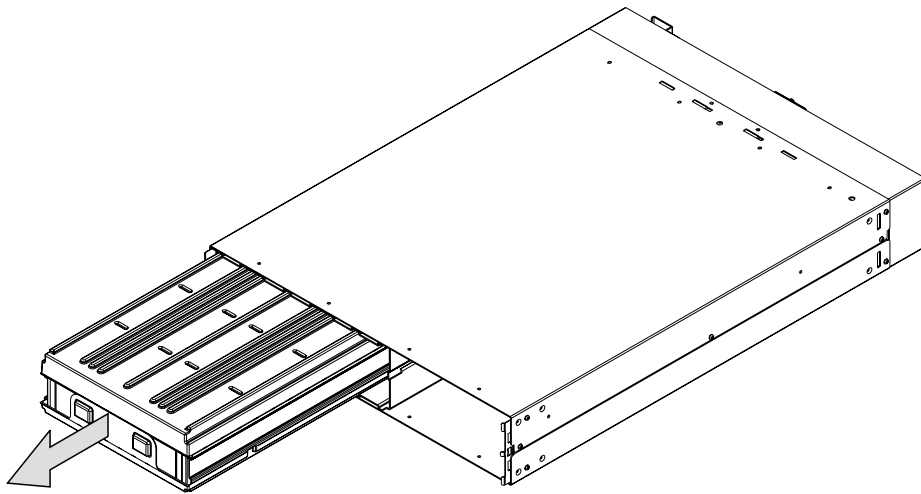

Figure 107. Removing the uninterruptible power supply battery
6. With aid from another service representative, pull the battery out onto a flat, stable surface (see Figure 107). Put the battery to one side.